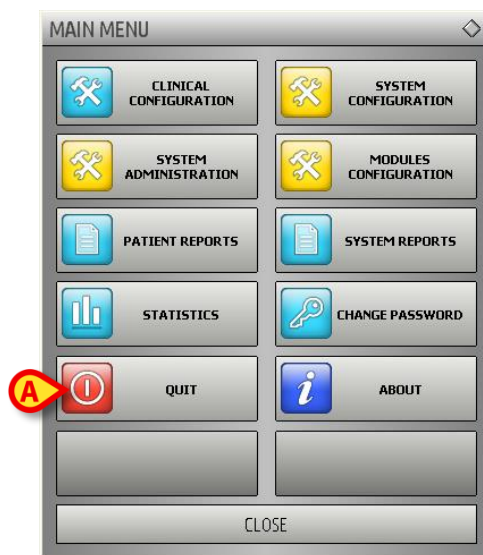

Fig 45
The **Quit** button on the DIGISTAT® main menu (Fig 45 A) makes it possible to quit the DIGISTAT® environment.
The DIGISTAT® main menu opens (Fig 45).
- Click the **Quit** button (Fig 45 A).